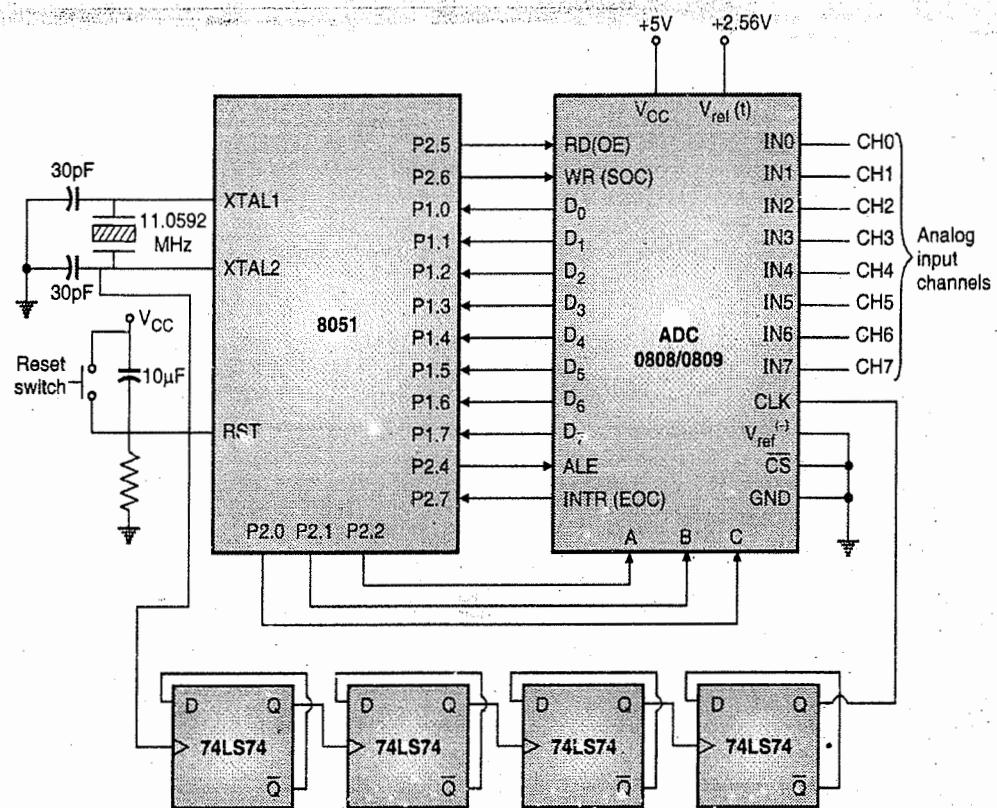

Fig. 2.8.3 : Interfacing 8 channel 8 bit ADC to 8051
The digital output is available to these pins. 2-1 represents the MSB and 2-8 represents the LSB of digital output. Fig. 2.8.3 shows typical interfacing of 8 channel, 8 bit ADC to 8051.
Fig. 2.8.3 shows interfacing of 8 channels, 8 bit ADC to 8051.
- In Fig. 2.8.3 the clock source to ADC0808/0809 is from the crystal oscillator. But this frequency is very high for the A/D converter. Hence, four D flip-flops are used for dividing the frequency.